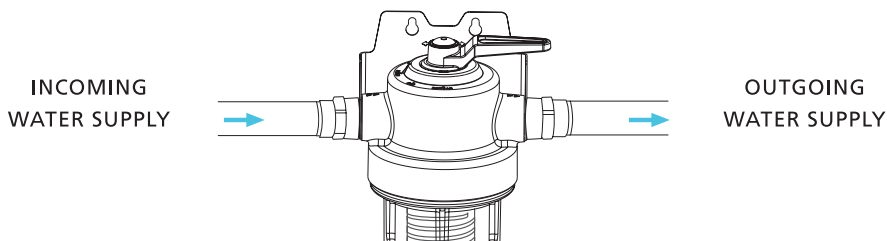

FIGURE 5
- 10** Use wrench supplied to turn filter head valve to "FILTER" mode and slowly turn on main water supply. Check for leaks. Allow water to run five (5) minutes to flush. (See Figure 5)